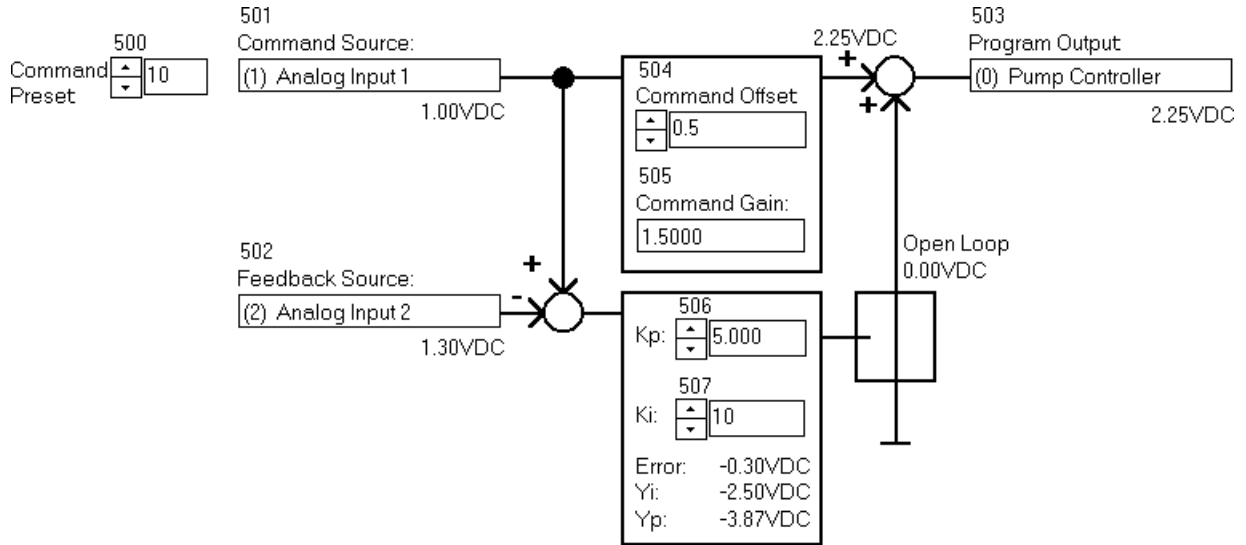

Figure 12: Advanced Control with Feed-Forward Program in Open Loop
Example: Figure 12 shows Program 11 Form for Advanced Control with Feed-Forward in Open Loop. The Command is offset and multiplied by the gain: $(1.00\text{V} + 0.5\text{V}) \times 1.5 = 2.25\text{V}$. This Feed-Forward Command is then summed with the Open Loop output: $2.25\text{V} + 0.0\text{V} = 2.25\text{V}$. Finally, the Program Output is set to the Pump Controller (program item 503=0).